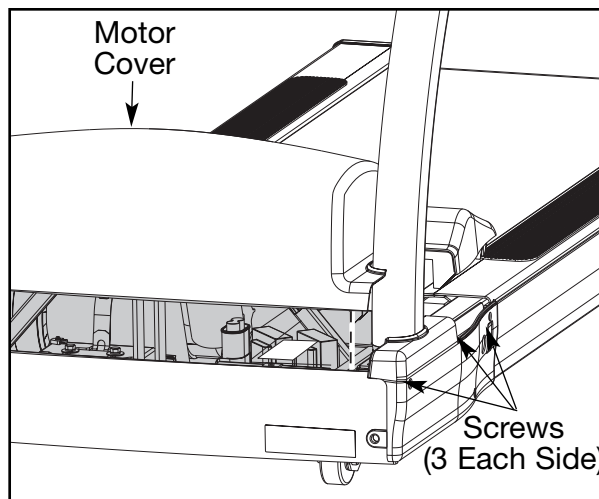

Figure 2
- A. Turn the main power switch on the left side to the off (O) position.
- A. Using a Phillips head screwdriver, loosen three screws on each motor cover side (left and right). See Figure 2.
- B. Lift the motor cover up and off the treadmill. The screws will stay in place. See Figure 2.
- A.** Lower the motor cover center into position. See Figure 2.